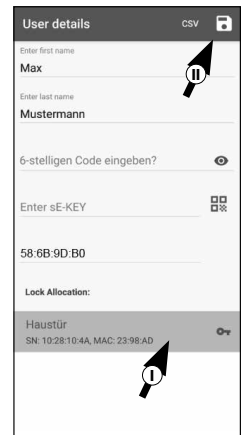

Fig. 44
- ④ Next, assign a cylinder by tapping it in the list of cylinders already registered (I) and save your settings by tapping on the disk symbol at the top right (II) (Fig. 44).
- ⑤ The user has now been assigned another KeyApp as an electronic key and the selected lock within the KeyApp. The programming process must be started so that the cylinder also receives this information. The corresponding description can be found in the chapter "Programming/ Updating the cylinder" on page 11.